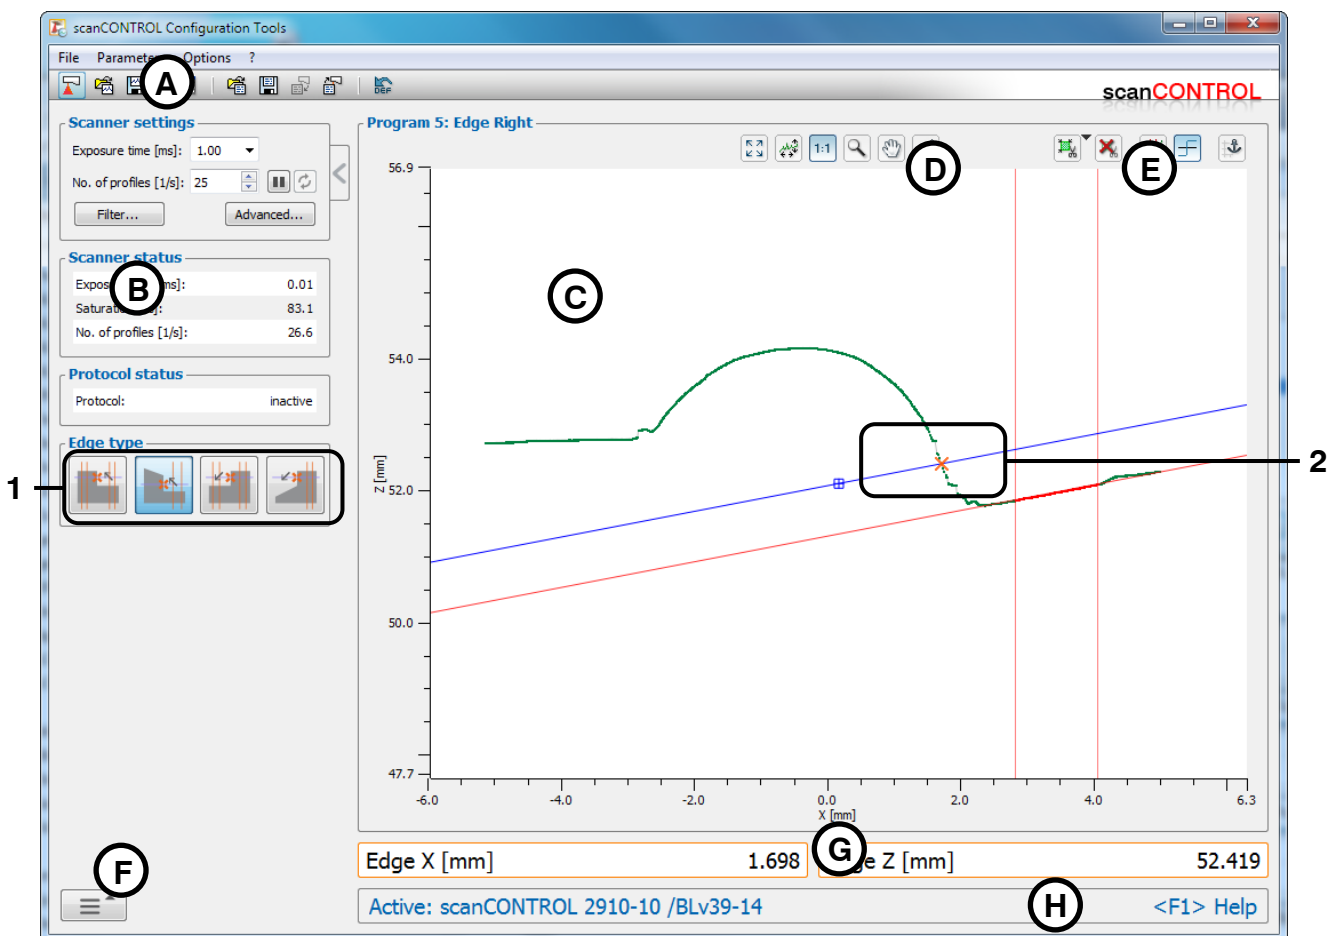

Fig. 4.19: "Edge Right" measuring program
- Define the type of the edge (see Fig. 4.19 and Chapter 3.13.1):